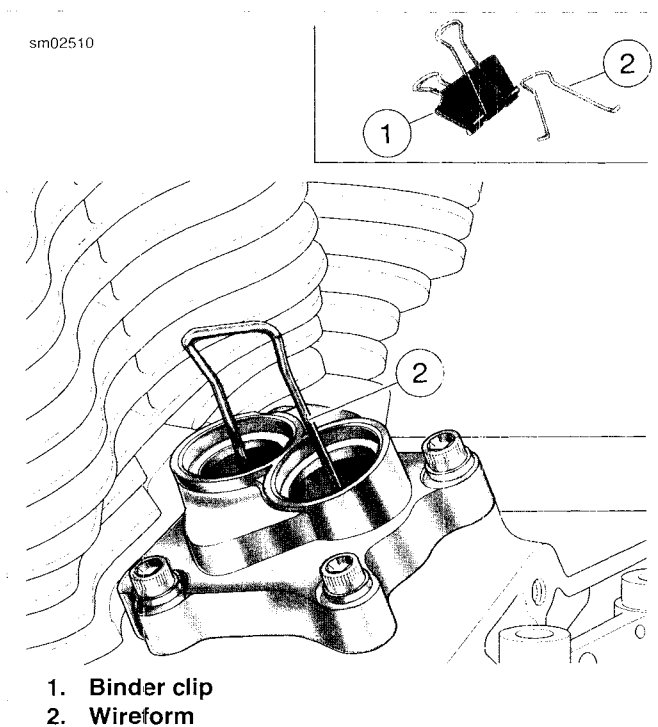

Figure 3-124. Hydraulic Lifter Holding Tool
2. See Figure 3-124. Fashion lifter holding tool to prevent the hydraulic lifters from dropping into the cam compartment during cam support plate removal.
- a. Obtain a large binder clip (1) which is available at any office supply store. Squeeze wireforms (2) to remove from binder clip.
- b. Compress wireform (2) slightly and insert free ends into outer and inner lifter cover bores so that legs engage walls of both hydraulic lifter sockets.